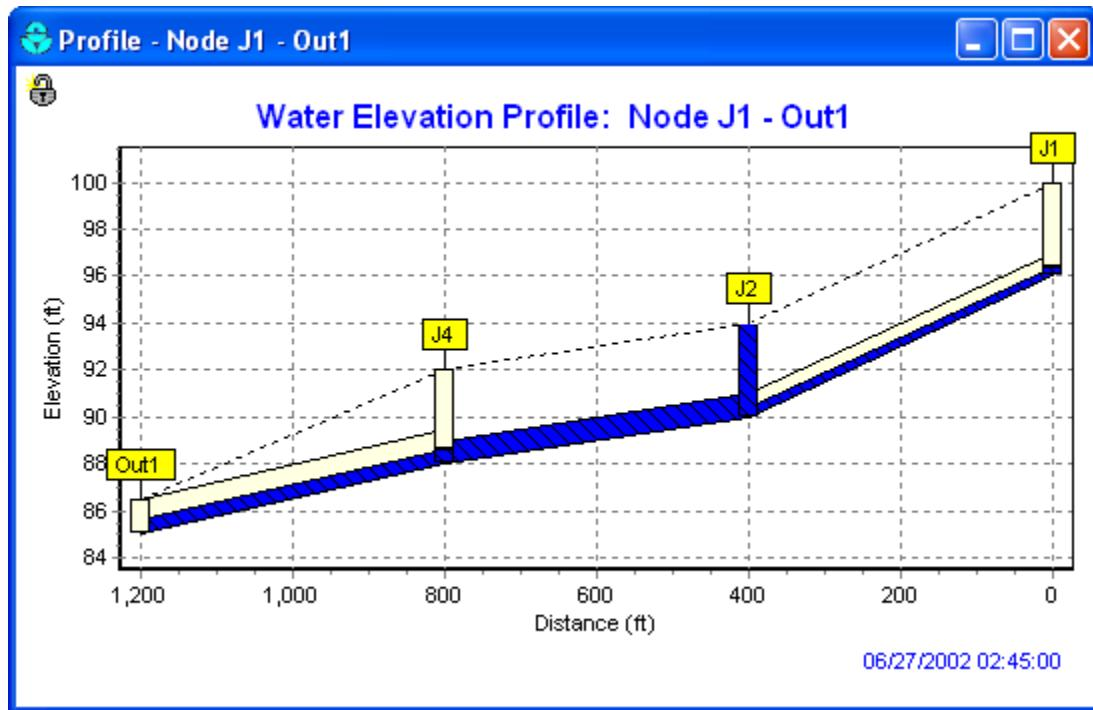

Figure 2-17. Example of a Profile plot.
5. Click the **OK** button to create the plot, showing the water surface profile as it exists at the simulation time currently selected in the Map Browser (see Figure 2-17).